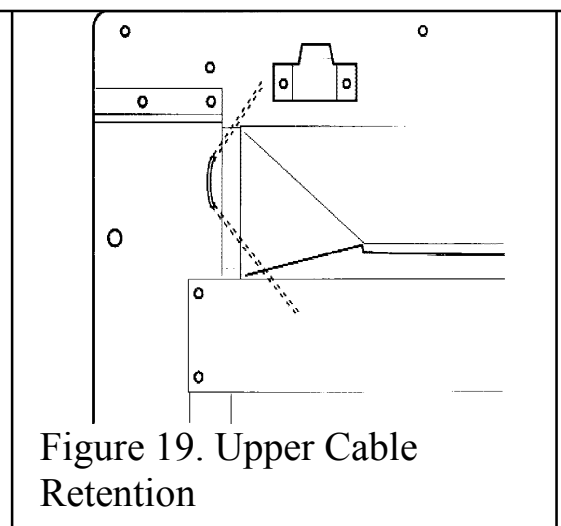

Figure 19. Upper Cable Retention
5. The convection box has two holes at each side of the convected air opening. Insert one end of each cable (one cable each side) from the back through the lower of the two holes and return the end through the upper of the holes. See figure 19. Give the cables a pull so that they grip against the convection box flanges.